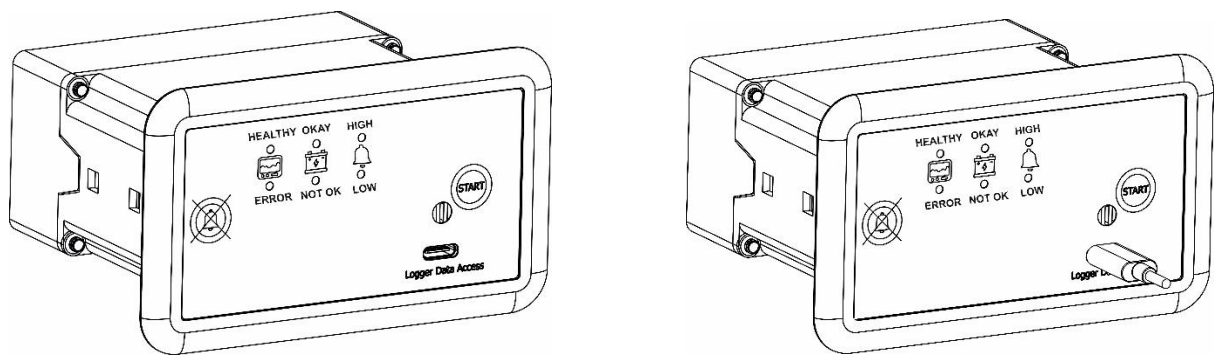

Figure 13 Connect USB Type C cable for M2M Data Access from the logger
- Connect a USB 2.0 Type-C cable to the logger's M2M port labeled “**Logger Data Access**” to access the data files, as shown in figure 13.